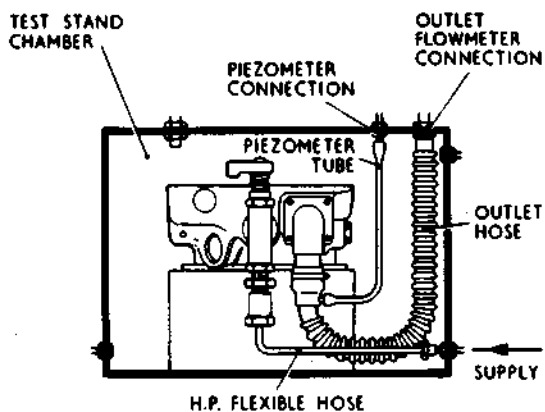

Fig.1. Connections for exercising the regulator
- (1) Connect the inlet adapter to the regulator shut-off valve.
- (2) Mount the regulator in the test stand and connect the high-pressure flexible hose to the inlet adapter on the regulator. Connect the mask hose of the piezometer ring to the outlet adapter in the chamber and the piezometer tube to the piezometer connection. Connect the piezometer ring to the regulator outlet (fig.1).
- (3) Set the regulator shut-off valve to ON, the air inlet control to NORMAL and the emergency button central.
- (4) Close and clamp the chamber door, then open the high-pressure ON/OFF valve. Using the reducing valve, apply the appropriate inlet pressure (Table 1) to the regulator.